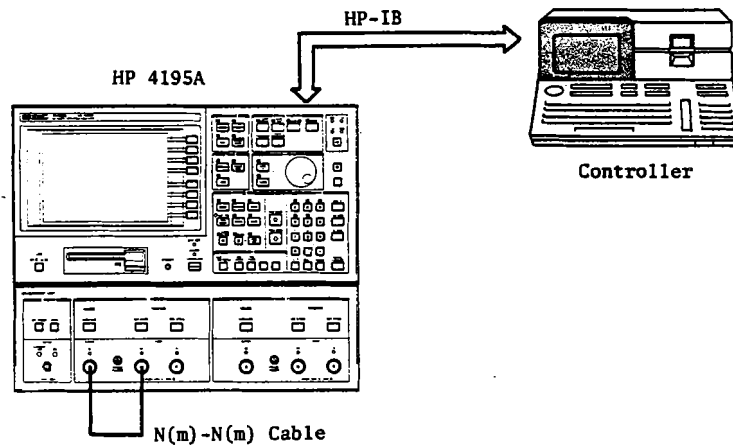

Figure 3-145. Source BPF Tuning Voltage Calibration Setup
2. Connect a N(m)-N(m) cable from **OUTPUT S1** to **INPUT R1**, as shown in Figure 3-145.